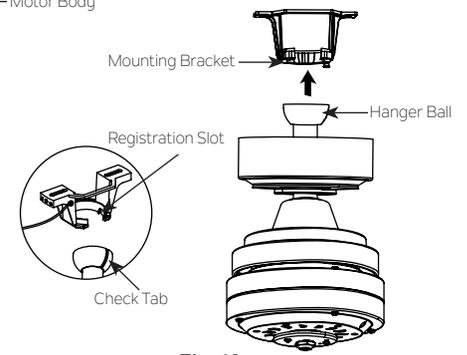

Fig. 10
**Step 6.** Now lift the motor body into position and place the hanger ball into the mounting bracket. Rotate until the "Check Tab" has dropped into the "Registration Slot" and seats firmly. (Fig. 10) The entire motor body should not rotate if this is done correctly.